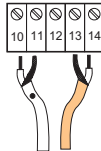
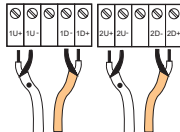

Fig. 5.5: Connection of the transducer cable with FLUXUS ADM 5107
Fig. 5.6: Connection of the transducer cable with FLUXUS ADM 5207
- Screw the basic part (3) with the housing.
- Fix the cable gland by screwing the cap nut (1) on the basic part (3).
- Connect the leads to the terminals of the flowmeter (see Fig. 5.5 or Fig. 5.6).